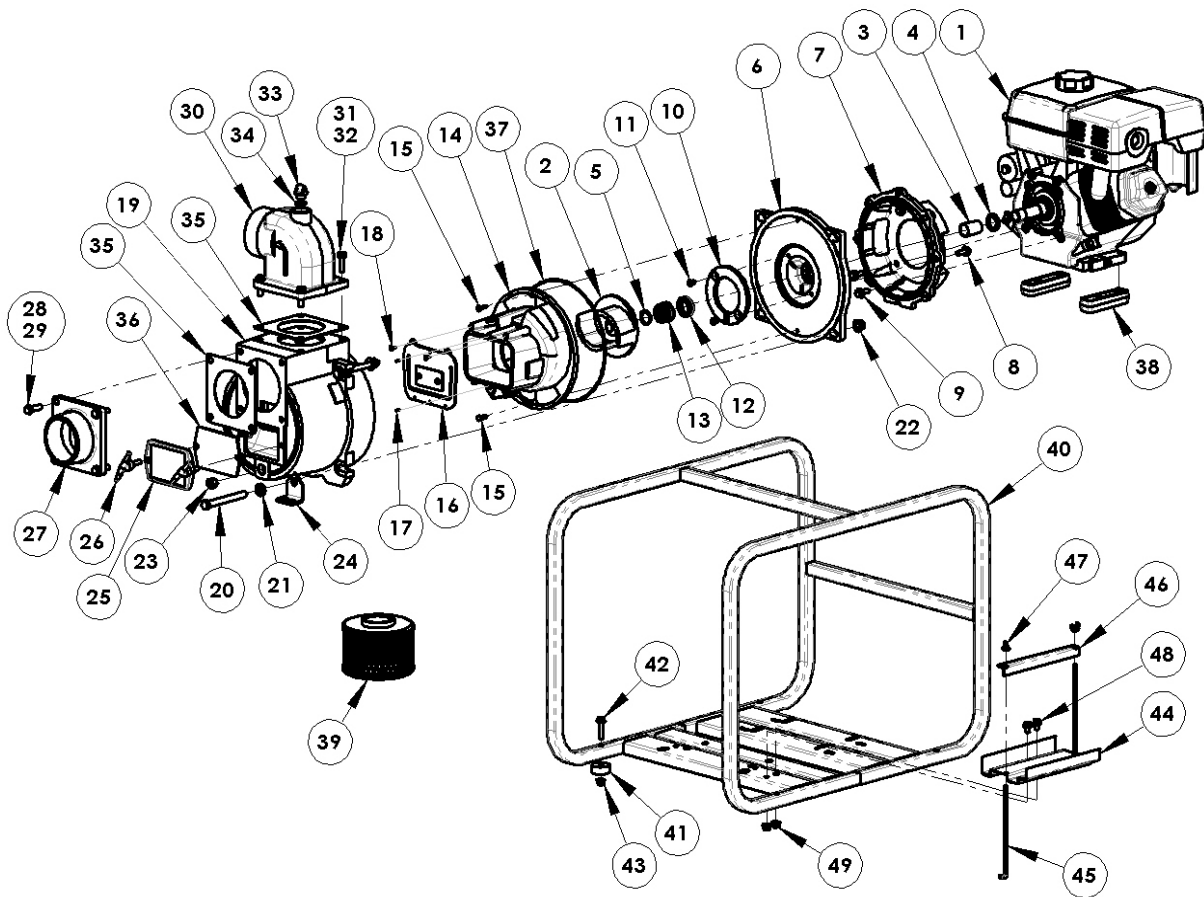

Figure 3 - Repair Parts Illustrations
(Refer to Figure 3)
**NOTE:** When the clearance between the impeller and the volute exceeds 1/16" at the face of the impeller or 1/8" on the outside diameter of the impeller, it may be necessary to take corrective action. The increased clearance can cause lengthened priming times and reduced pumping capacity. If both the priming and capacity of your unit are satisfactory for your application, it is recommended that no corrective maintenance be performed regardless of what clearances on your unit may have developed, since the increased clearances in themselves are not generally harmful to your pump. Normally, new pump clearances can be restored by simply shimming behind the impeller. (Add shim washers, Ref. No. 5). If the impeller is badly worn it is recommended that the impeller be replaced. This is usually all that is required since only on unusually abrasive services does the cast iron wear plate show deterioration. Occasionally a stone or hard object might get caught in the impeller and cause damage to the volute/cut water. In these cases, follow the instructions below for replacement and refer to Figure 3.